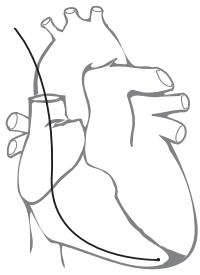

Figure 12. Ventricular lead placement
5. Remove the stylet completely. Adjust the lead so that it lies in the desired position in the ventricle (Figure 12).